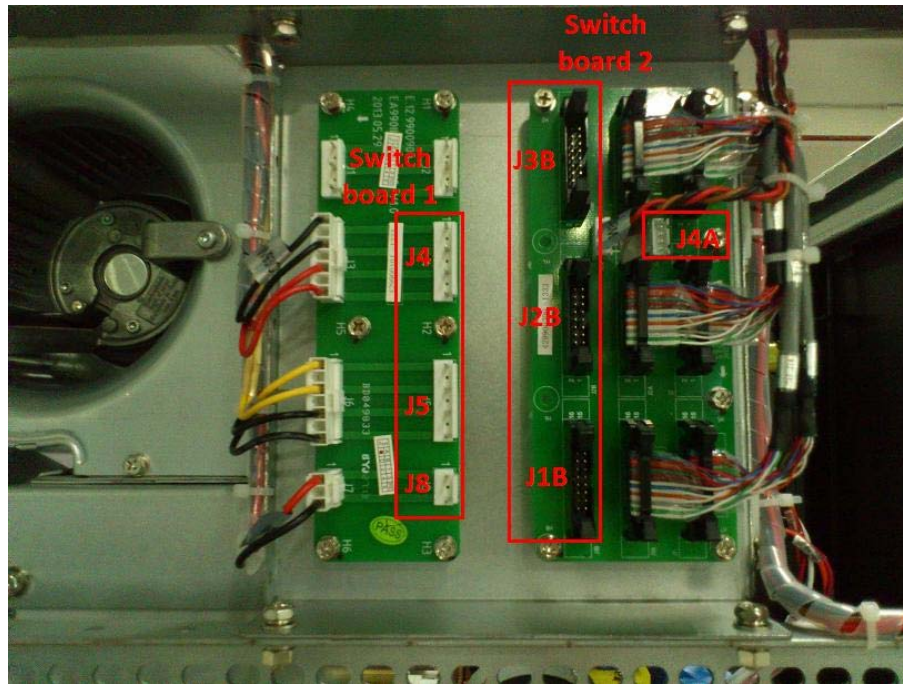

Figure 36: Signal line connection of 400~600KVA UPS
5. Connection of signal lines: connect a bunch of unconnected signal lines on the top right of rectifier cabinet to the switch board on the top left of inverter cabinet correspondingly (as shown in Figure 36) and the connection between signal line mark and corresponding terminal is as shown in table 6.